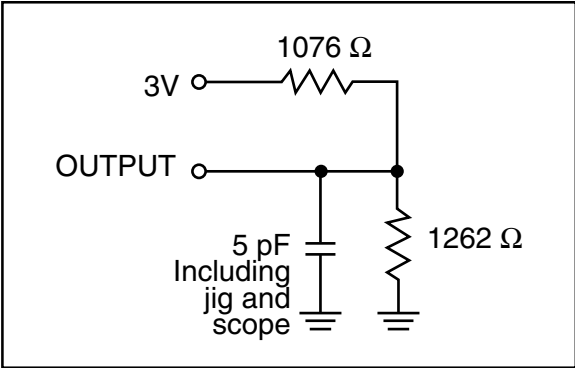

Figure 2.
2. Tested with the load in Figure 2. Transition is measured $\pm 500\text{mV}$ from steady-state voltage. Not 100% tested.
3. Tested with the load in Figure 2. Transition is measured ± 500 mV from steady-state voltage.